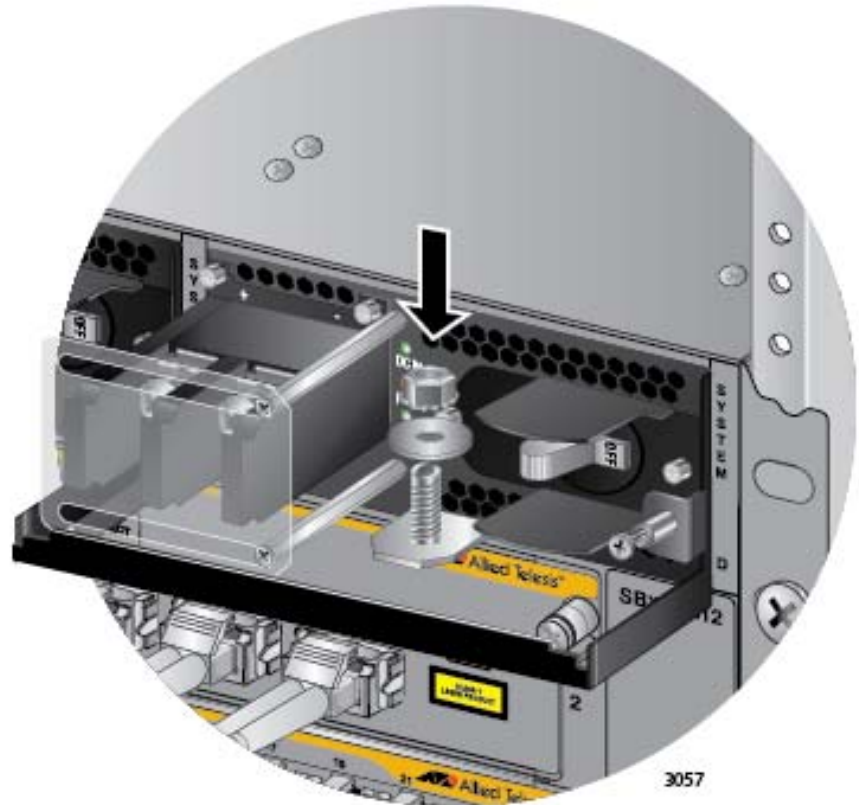

Figure 156. Reinstalling the Nut and Washer on the Grounding Post
10. Reinstall the nut and washer on the grounding post. Refer to Figure 156 on page 247.